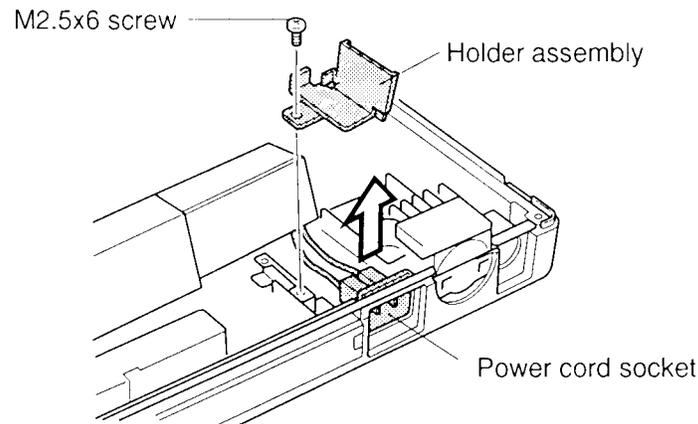

Figure 4-31 Removing the holder assembly
3. Remove **one M2.5x6 screw** (figure 4-31) securing the speaker and brace.